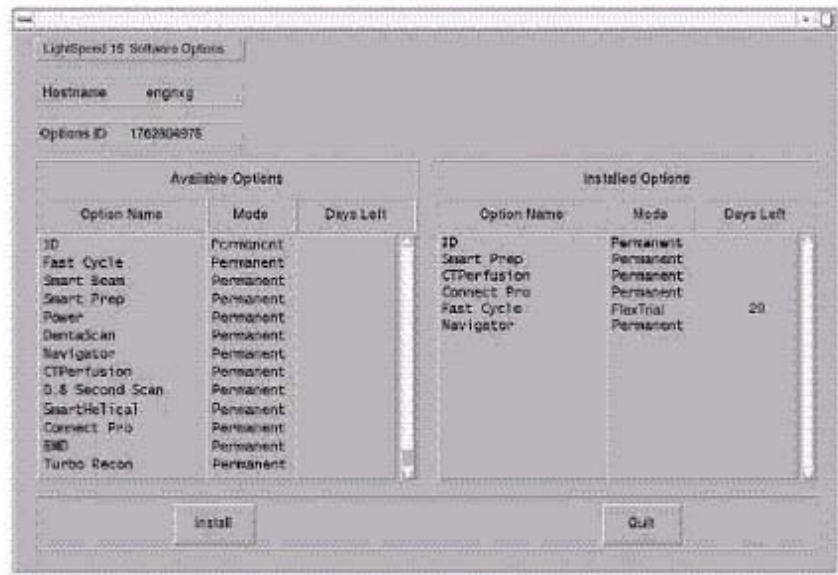

Figure 6-21 Software Options screen
- 8.) Click OK. Available options appear on the Software Options screen (Figure 6-21).